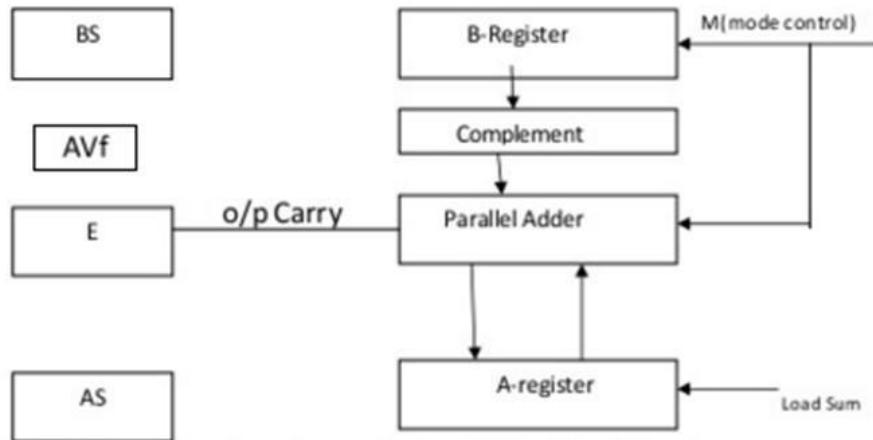

Figure 7.2: Hardware for signed-magnitude addition and subtraction
- Figure 7.2 shows a block diagram of the hardware for implementing the addition and subtraction operations.